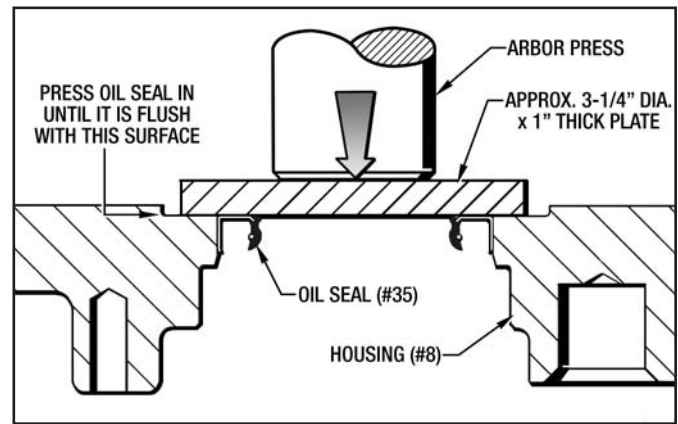

Figure 9.4 - Installing Oil Seal (#35) into the Housing (#8)
3. With an Arbor Press and a 3-1/4" Dia. x 1" Thick Plate, press the Oil Seal (#35) in to the Housing (#8) until it is flush with the housing surface as shown in *Figure 9.4*.